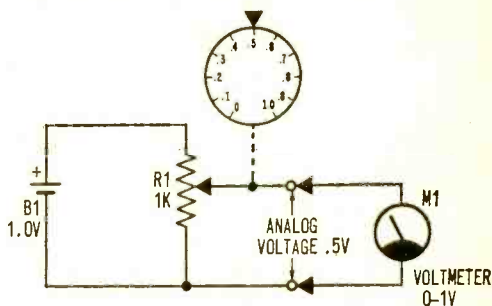

Fig. 1. Hypothetical circuit showing how potentiometer can convert number into voltage analog. Dial calibrations represent any desired quantity.
**Voltage Analog.** An ordinary potentiometer will help us see how a number can be converted into a voltage analog. Fig. 1 shows a simple circuit of a potentiometer, R1, connected in series with a battery, B1. Rotating the dial on the shaft of R1 causes the pot wiper to "pick off" a voltage proportional to the dial setting.
In Fig. 1 the dial is calibrated from zero to one, and the voltage supplied by the battery is 1.0 volt. Thus, in this particular instance, the dial setting indicates the voltage
**Multiplying.** In Fig. 1, a voltage analog for the number 0.5 was developed at the wiper of R1. It can also be said that the supply voltage across R1 was multiplied by
0.5. Thus, 1 V times 0.5 will be 0.5 V. If a voltage other than 1 V were supplied by B1 in Fig. 1, we would be multiplying the supply voltage by the dial setting.
Fig. 2. Addition of second potentiometer to hookup in Fig. 1 results in circuit which can multiply. Voltmeter M1 now indicates analog voltage  $A \times B$  rather than analog voltage A only.